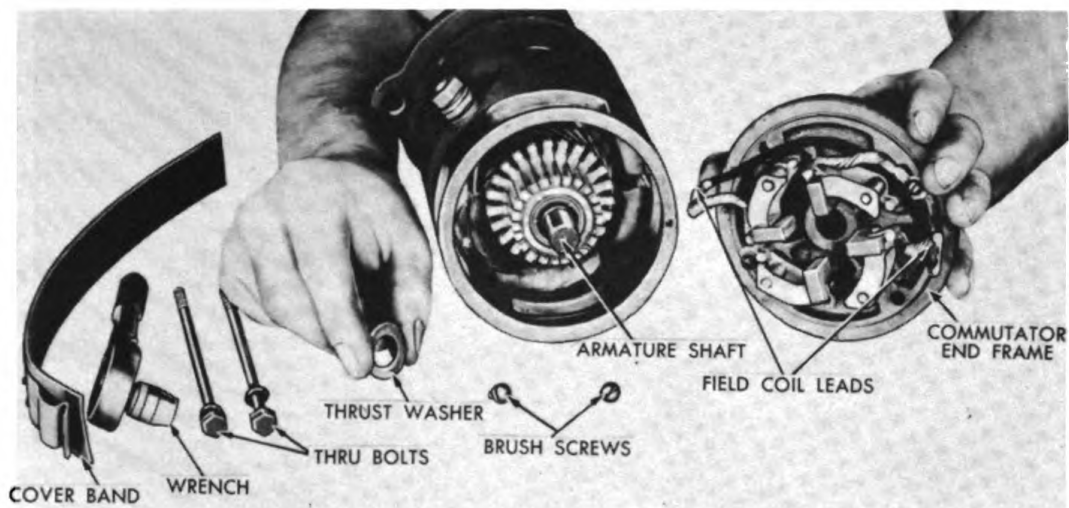

Figure 233. Removing Commutator End Frame.
- b. Detach the commutator end frame by removing the cover band and by removing two brush screws and lockwashers so that the field coil may be detached, and then removing the two through bolts and lockwashers. See figure 233.